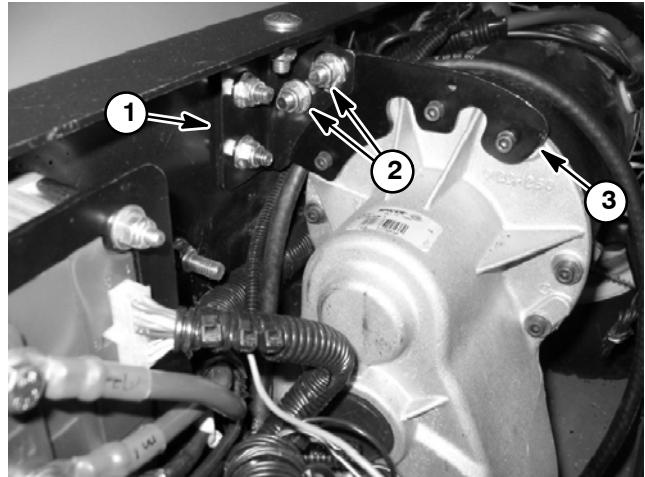

Figure 14
10. Loosen and remove two (2) flange nuts and carriage screws that secure transaxle mount plate (item 5) to support bracket (item 4) (Fig. 14).
11. Remove four (4) flange head screws and flange nuts securing the transaxle to the rear frame.